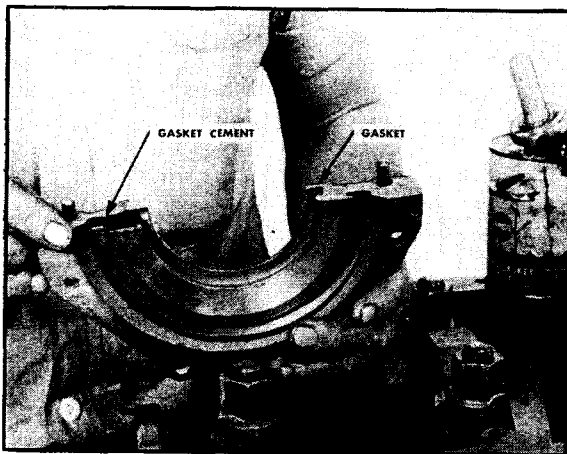

Fig. 12-14. Installing gaskets between rear cover plate-halves
7. Cement new gaskets to the joining surfaces of the upper cover plate-half. Fig. 12-14.